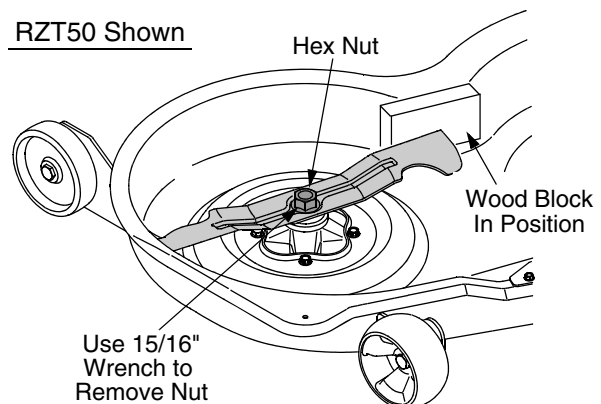

Figure 38
- Use a 15/16 inch wrench to hold the hex nut on top of the spindle assembly when loosening the hex nut securing the blade. A block of wood may be placed between the deck housing and the cutting edge of the blade to help in breaking loose the hex nut securing the blade. Refer to Figure 38.